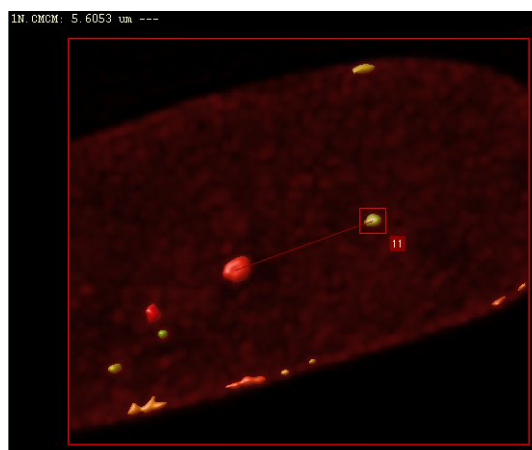

FIGURE 10.7. Interaction with the objects.
You may also have noticed that something else happens when you interact with the rendered objects. In the example of Figure 10.7 the user clicked on object 11. A line joins the center of mass (CM) of this object with the center of mass of the nearest neighbor, and this distance is reported at the top of the window. (This is the only parameter reported on the canvas because that is the only one we selected on the preset configuration, but all the interesting information is now included in the table too).